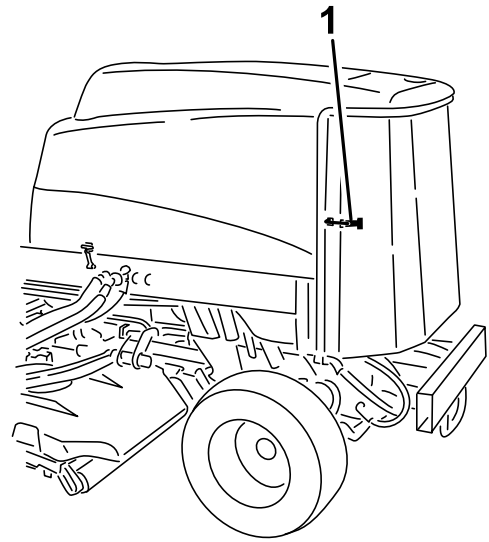

Figure 117
3. Unlatch and swing open the rear screen (Figure 117).